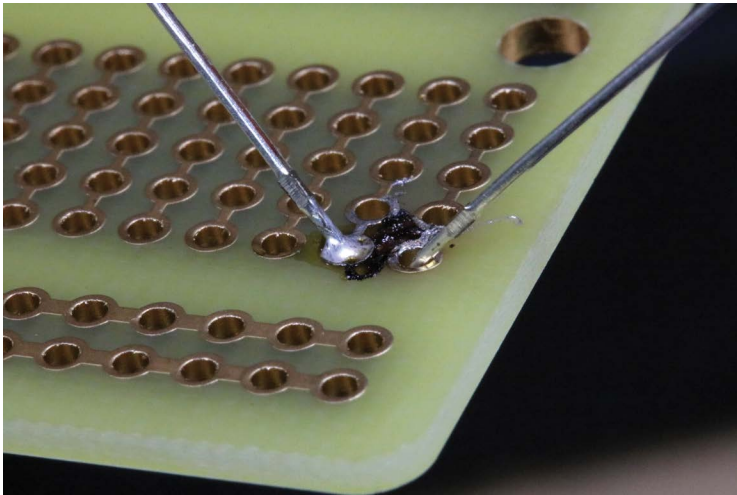

FIGURE 4-4: Too much heat at the connection
Although it's more common to apply too little heat at the solder joint, too much heat can be just as much of an issue (see Figure 4-4). It can have a negative effect on the integrity of the connection, and it can also melt or burn the PCB, both of which are not good! In some situations, the copper pad of the PCB can be destroyed beyond repair, although this is rare. Lastly, too much heat can damage the component being soldered, especially if it's an integrated circuit (IC) or other heat-sensitive component. Too much heat can be difficult to fix, so prevention is the best course of action—use less heat. It's much easier to fix a cold joint by reflowing the solder and making a perfect connection.